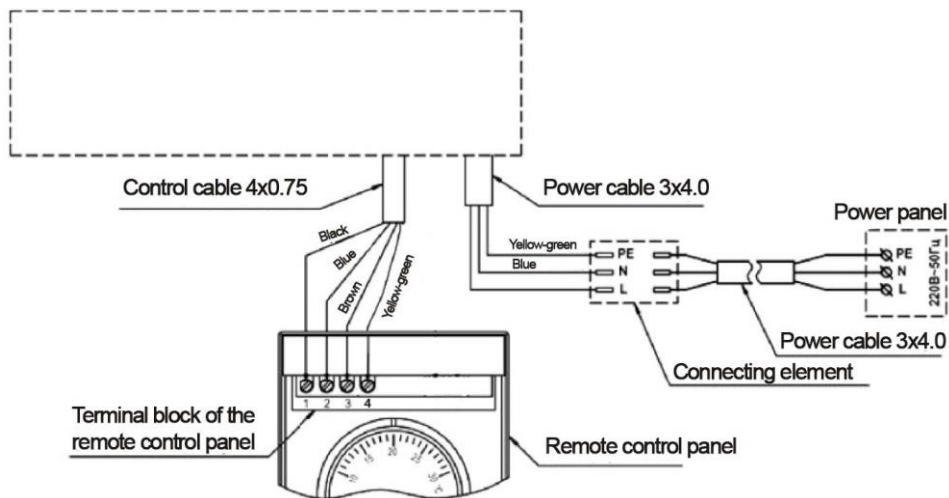

Fig. 4
- connect the control cable removed from the curtain to the terminal block of the control panel according to the scheme from Fig. 4, which is also indicated on the device body.
3. Connection to the stationary power supply network is carried out in accordance with the scheme indicated in Fig. 4 and on the curtain body.